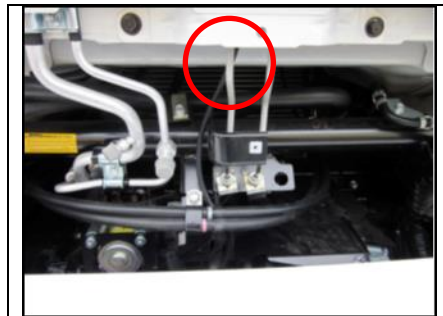

Figure 27
6. Route the harness through the hole, up into the cab. Do not install plug at this time. (See Figure 27.)